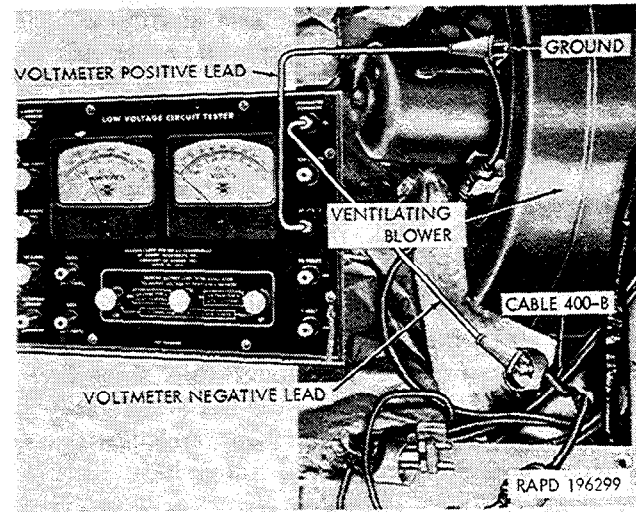

Figure 3-4. Checking for current at heater cable.
(3) *Heater faulty.* If the heater fails to burn after (1) and (2) above have been performed, notify direct support maintenance personnel.
(4) *Check for current to heater control cable (Fig. 3-4).* If current flows through the heater circuit breaker, but does not reach the heater, proceed as outlined in (a) through (c) below.